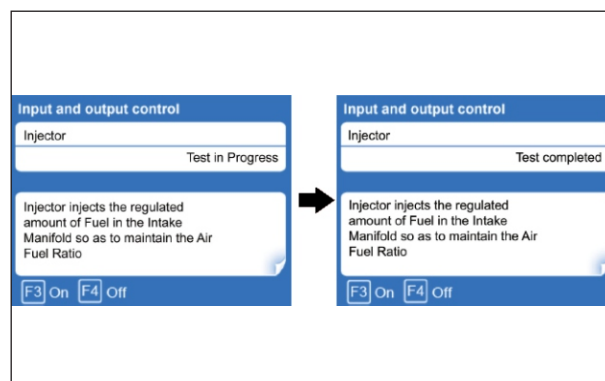

Fig. 7.21
- When F3 is pressed the Actuator test will commence (**Test is Progress**) and at the end of 3 seconds it will display **Test completed**. (Fig. 7.21)